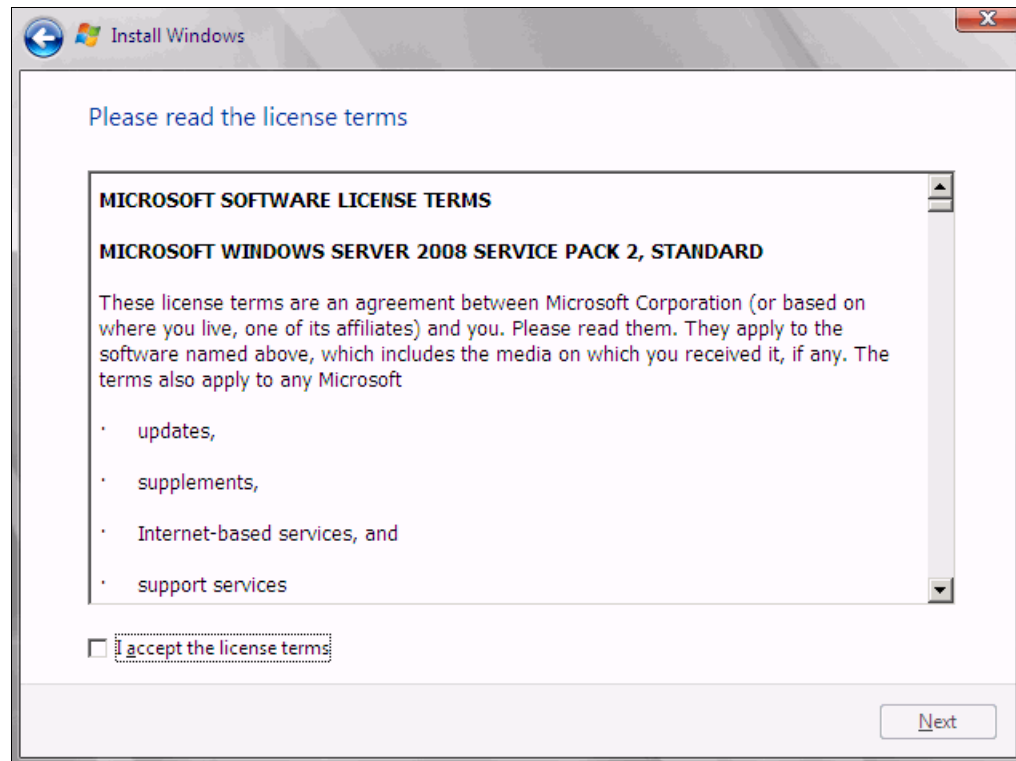

Figure 9-179 License agreement window
13. Read the license agreement, select **I accept the license terms**, and click **Next** (Figure 9-179).